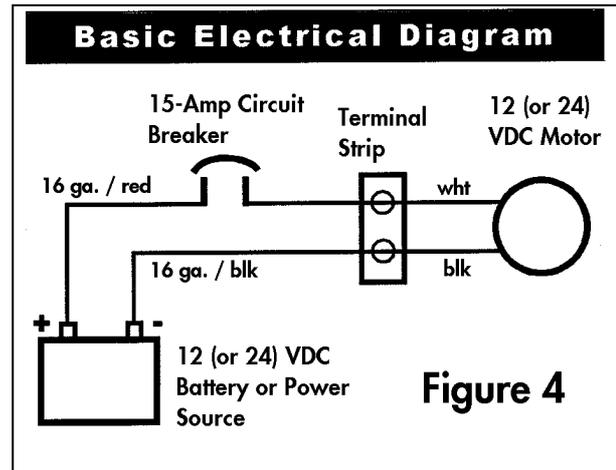

Figure 4
2. Connect Electrical Power to Pump: To provide 12 (or 24) VDC electric power to the motor, use a minimum of 16-gauge stranded copper wire. We recommend 14-gauge (or larger) wire for distances over 5-6 feet. Tinned, stranded copper wire is preferred for marine installations and is available in most marine hardware stores. **Figure 4** shows a typical electrical power configuration.